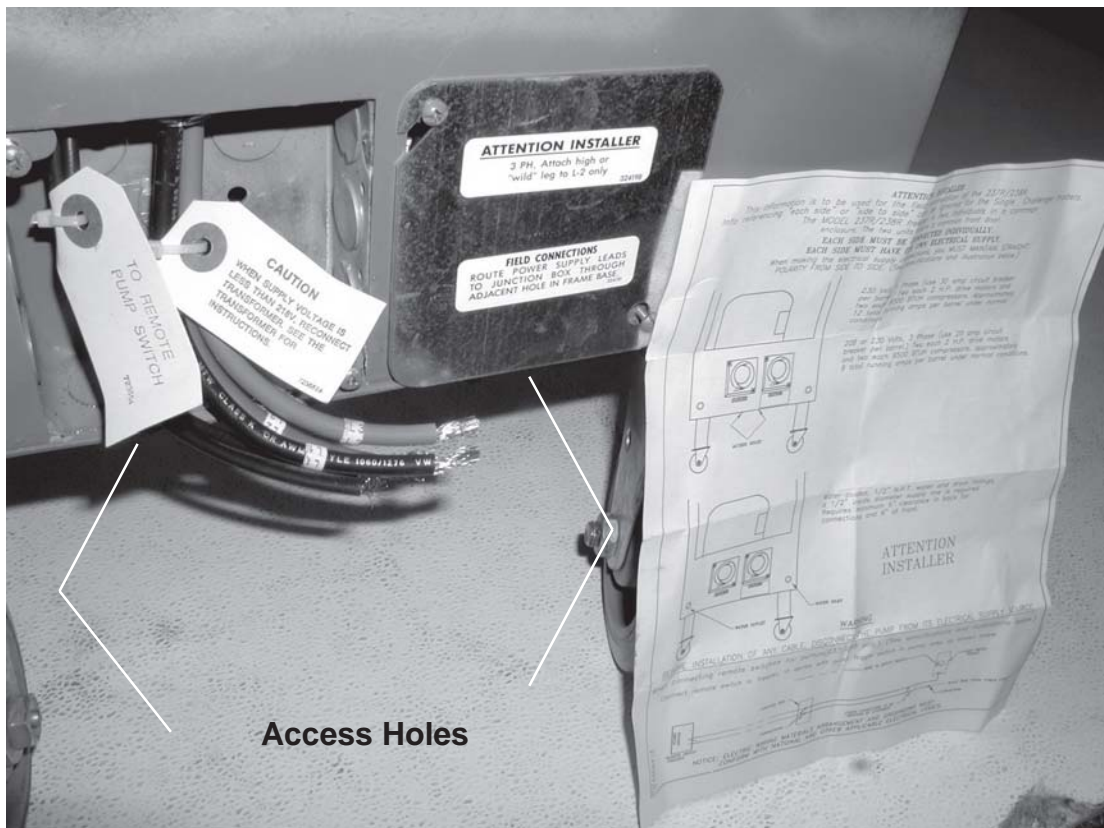

Figure 3
- F. Refer to nameplate at the side of the freezer for specific electrical requirements. Connect electrical power to the junction box at the rear of the freezer. Bring wires into junction box through access hole in bottom rear of freezer. (Fig.3).